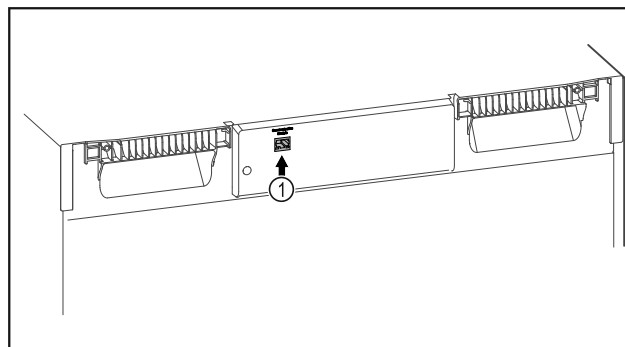

Fig. 110
- SmartModule *Fig. 110 (1)* is in use.